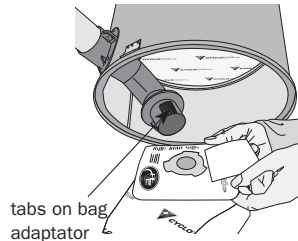

figure 12
3. Install the new bag, ensuring the tabs on the bag adaptor are aligned with the slots in the bag collar (**figure 12**).